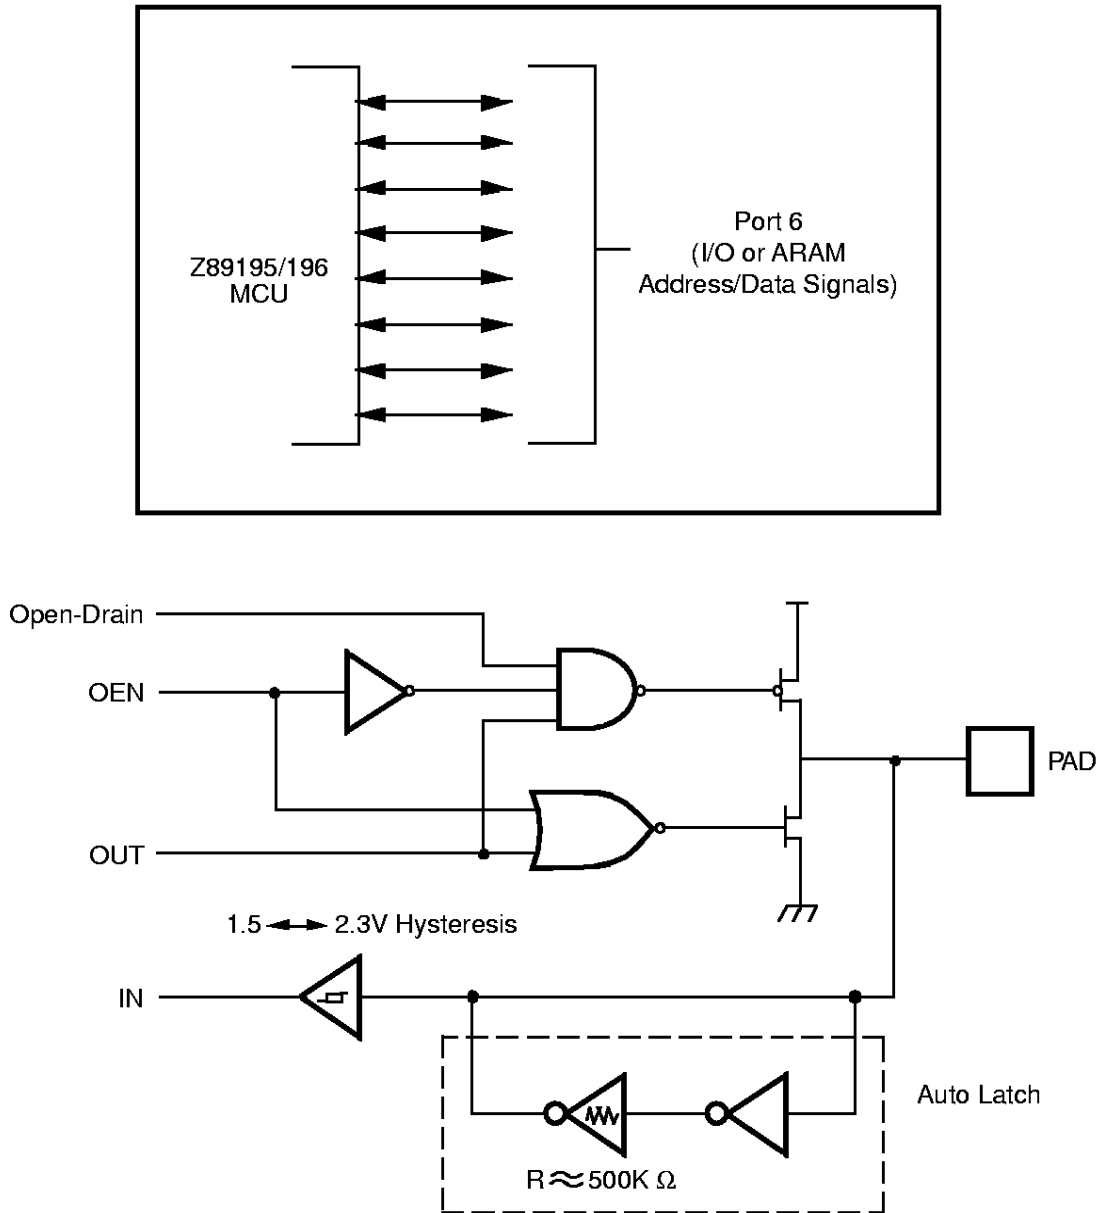

Figure 17. Port 6 Configuration
**Port 6 (P67–P60).** When the Z89195's ARAM Controller function is enabled, Port 6 is used as external ARAM Address/Data signals. Refer to the section on ARAM Controller for details. Otherwise, Port 6 is an 8-bit, bidirectional, CMOS-compatible I/O port (Figure 17). These I/O lines are configured under software control independently as inputs or outputs. The input buffers are Schmitt-triggered. Bits programmed as outputs can be globally programmed as either push-pull or open-drain.